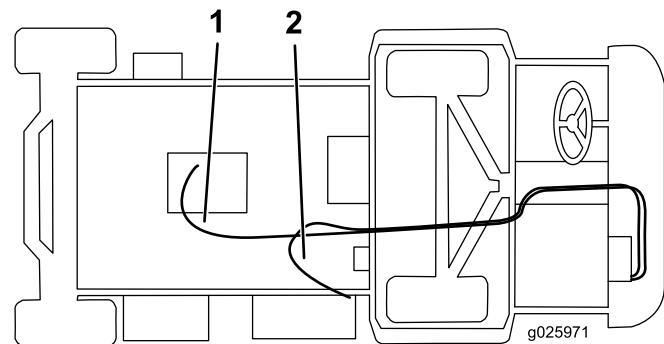

Figure 9
5. Connect the long hose to the heater valve with a hose clamp, and route it under the unit, over the axle, and to the straight fitting (Figure 9).
6. Connect the shorter hose to the white fill tee with a hose clamp, route it through the r-clamp on the heater bracket, and connect it to the tee fitting in the lower radiator hose with a hose clamp (Figure 9).